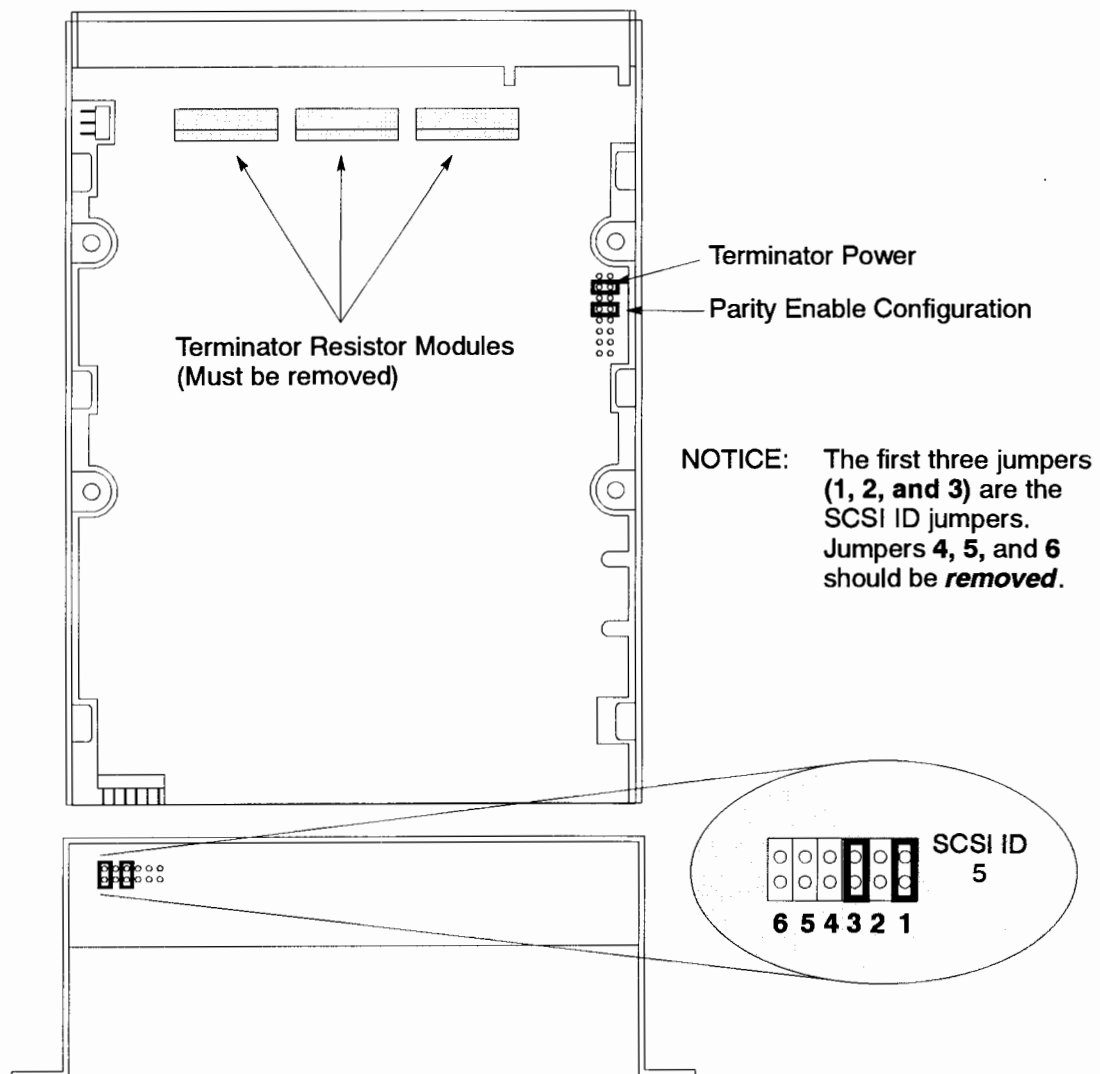

Figure B-35. Seagate 525-MB, 1-GB, and 2-GB Disk Drive Jumpers
- For a Seagate 525-MB, 1-GB, or 2-GB drive, refer to Figure B-35.